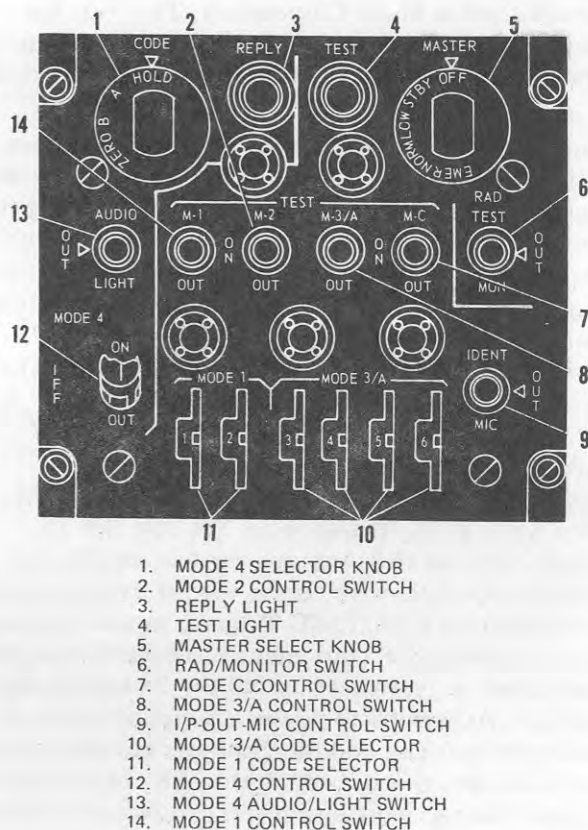

Figure 4-10. AN/APX-64 Transponder Control Panel
The transponder control (figure 4-10) is located on the center cockpit console. The transponder control contains all of the controls normally required for operating the AIMS/IFF transponder system except for mode 2 selections as follows:
The MASTER switch (figure 4-10) has marked positions OFF, STBY, LOW, NORM, and EMER. In the OFF position, power is removed from the transponder. In the STBY position, the receiver-transmitter is energized and retained in standby condition. The LOW position permits transponder operation with reduced receiver sensitivity. The NORM position permits transponder operation at normal receiver sensitivity. The EMER position permits transponder operation at normal receiver sensitivity and replies with the codes dialed in on modes 1 and 2 plus emergency pulse signals on those modes. Mode 3/A responds with 7700 regardless of the dialed-in setting and mode C responds normally with pressure altitude. In EMER, modes 1, 2, 3/A, and C are operative regardless of the mode control switch positions.
The mode control switches (figure 4-10) marked M-1, M-2, M-3/A and M-C, each have marked positions ON, OUT, and TEST. Placing a switch in the TEST (up) position enables the test set to locally interrogate the receiver-transmitter in that mode. The TEST light will illuminate to indicate the system is operating properly. Placing a mode control switch in the OUT position will deenergize that mode, provided the master control selector is not
1. The M-1 switch (figure 4-10) controls mode 1 transponder operation and allows a code from 00 to 73 to be selected.
2. The M-2 switch (figure 4-10) controls mode 2 transponder operation.
3. The M-3/A switch (figure 4-10) controls mode 3/A transponder operation and allows a code from 0000 to 7777 to be selected.
4. The M-C switch (figure 4-10) controls mode C transponder operation.
The IDENT-OUT-MIC switch (figure 4-10) controls identification of position (I/P) operations, when momentarily placed in the IDENT position (spring-loaded return to OUT), transmission of specially coded I/P reply signals to mode 1, 2, and 3/A interrogations is enabled. When the switch is placed in the MIC position, I/P reply signals are enabled when the UHF command transceiver is keyed by depressing the microphone-trigger switch on the cyclic stick. Either method will enable transmission of I/P reply signals for approximately 20 seconds. The OUT-position prevents triggering I/P signals.
The mode 4 REPLY light (figure 4-10), marked REPLY, will illuminate to indicate valid mode 4 replies when the mode 4 AUDIO-OUT-LIGHT switch (figure 4-10) is in either the AUDIO or LIGHT position. The REPLY light will illuminate when pressed-to-test providing the AUDIO-OUT-LIGHT switch is not in the OUT position.
The TEST light (figure 4-10), marked TEST, illuminates when the transponder responds properly to mode 1, 2, 3/A and C test signals. The TEST light also illuminates when pressed-to-test.
The mode 4 ON-OUT switch (figure 4-10) controls the transponder mode 4 operation. The ON position enables the transponder system to reply to mode 4 interrogations. The OUT position disables mode 4 operation.
The Mode 4 CODE switch (figure 4-10) has marked positions HOLD, A, B and ZERO. When momentarily placed in the HOLD position, with the landing gear extended and power applied to the transponder system, the mode 4 code setting will be retained by the transponder computer when electrical power is removed. The mode 4 CODE switch is spring-loaded and will return to the A position when released. The A and B positions enable the transponder system to reply to mode 4 code A or B interrogations, respectively. The ZERO position
The RAD/MONITOR switch (figure 4-10) has marked positions RAD, TEST, OUT, and MONITOR. When the switch is placed in the RAD TEST position, it selects a unique mode for test purpose. When the switch is in the MONITOR position, the TS-1843 monitors all replies and illuminates the TEST light if the replies meet the TEST criteria. The OUT position is off.
The MODE 1 code selector (figure 4-10) is used to select a desired code from 00 through 73.
The MODE 3/A code selector (figure 4-10) is used to select a desired code from 0000 through 7777.